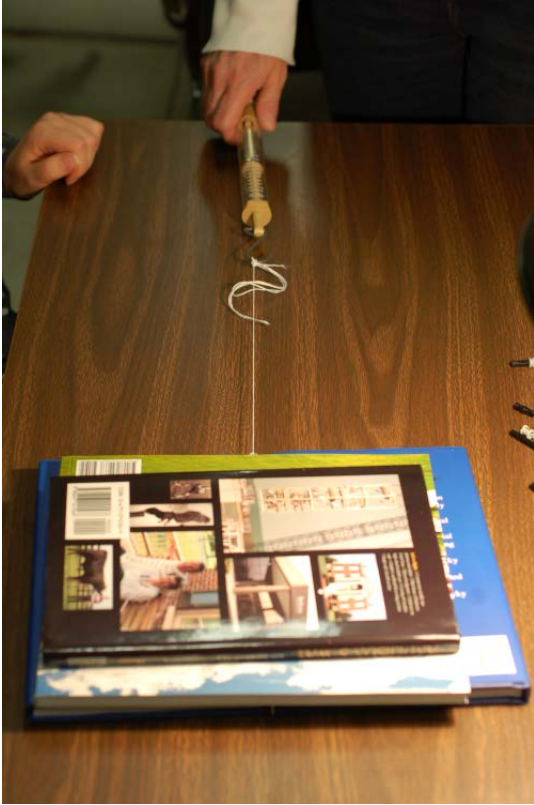

Figure 11. Pulling books with spring scale.
Step 1: Determine student's prior conceptions about friction. Is friction a good thing? A bad thing? Is friction a force? What is friction good for? What would the world be like if we had no friction? Would walking be difficult? Would it be hard for cars to move? Ask students why hiking boots are different from bowling shoes? Ask if they know why skateboarding shoes have special soles? Many students will think of friction as something to eliminate, but help them see that friction helps with motion. Many will not understand that friction helps people walk and cars move forward, and that the frictional force is in the direction of the motion of the person or car, but opposite the direction that the wheel or foot tends to move. In what direction is friction acting in this demonstration? See Figure 11.